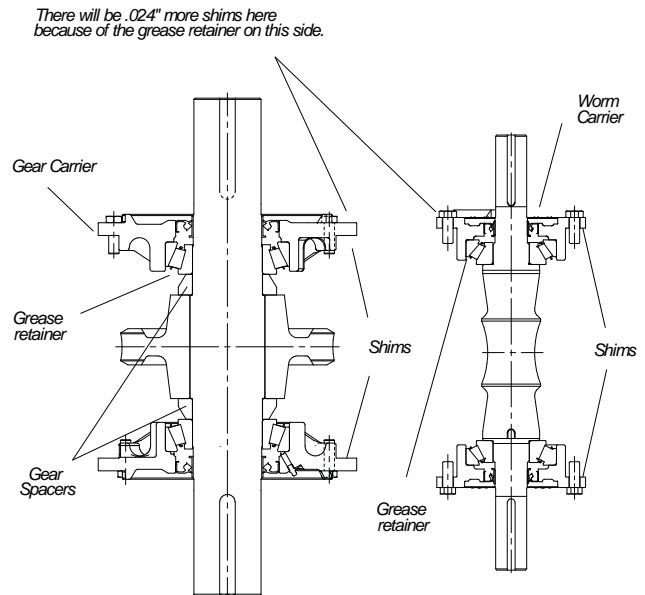

Figure 3
Bearings that are least partially submerged in oil or oiled by internal oil scoops do not require special maintenance. However, bearings that are not lubricated as above require grease lubrication. Grease fittings and internal retainers are furnished when required, see figure 3. Apply a high quality lithium base NLGI #2 or NLGI #3 bearing grease at normal maintenance intervals depending on the duty cycle of the reducer.
4. All speed reducers 3" C.D. and larger with a vertical worm or gearshaft will have a grease retainer under the upper bearing cone on the shaft. The grease retainer must be installed with the rim toward the bearing cone, as shown in figure 3. When a grease retainer is used under a bearing, you must add 0.24" shims to the carrier on that bearing.
6. Correct any misalignment by removing shims from one bearing cap or carrier and adding an equal amount to the opposite cap or carrier. See figure 3.